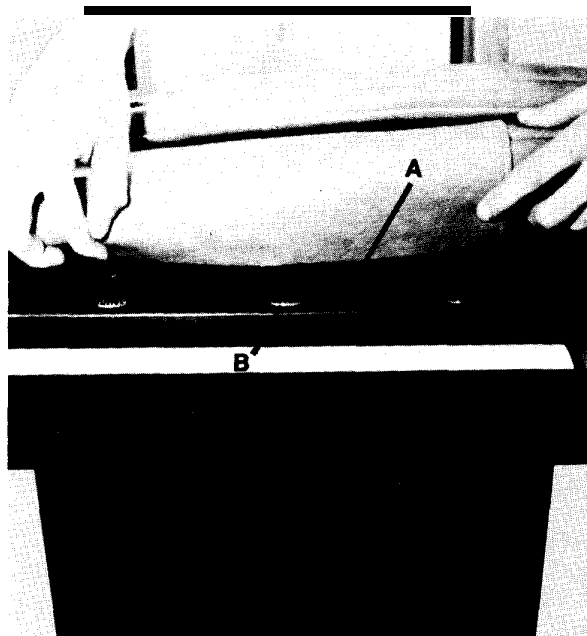

Fig. 6
- 3) Replace pillow by inserting pillow hold-down piece under the back section so that the velcro strip, Item A, Fig. 6 makes contact with the velcro tabs, Item B, Fig.6.